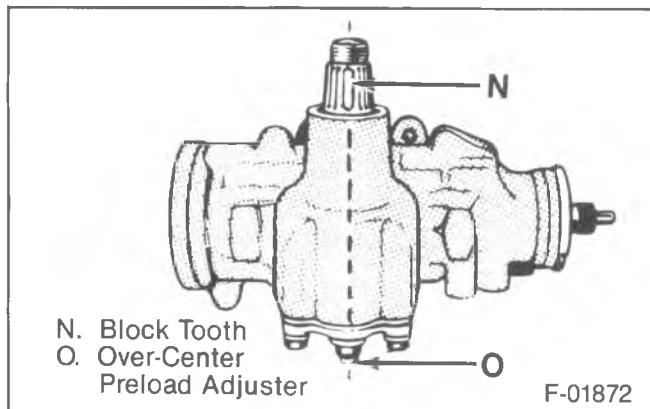

Figure 20—Pitman Shaft “Over-Center” Sector Adjustment
- Check the turning torque of the stub shaft, using J-7754-01 and a 12-point socket. The reading should be taken with the beam of the wrench near vertical while turning the wrench to the left at an even rate (figure 20). If the reading is less than 0.45 N·m (4 in. lbs.) or more than 1.15 N·m (10 in. lbs.), repeat the adjustment procedure.
- Lubricate the stub shaft (251) area outside the dust seal (206) with chassis lubricant or an all purpose grease.